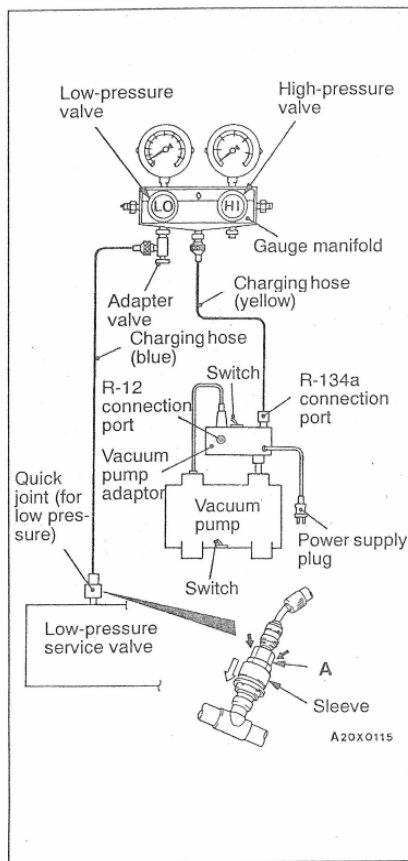
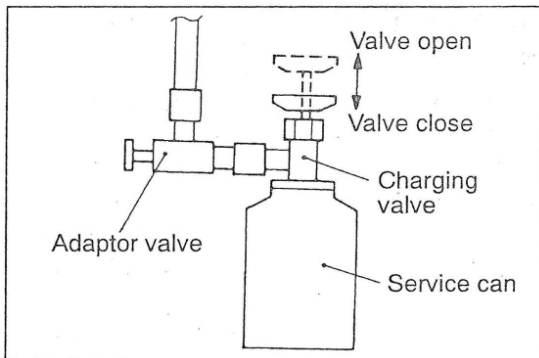
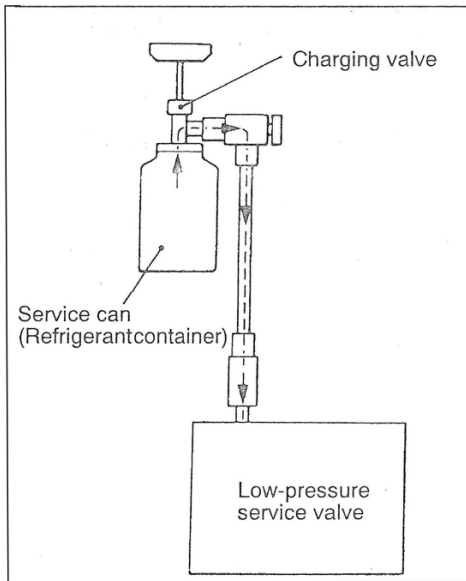

Fig. 21-5
Fig. 21-7
Fig.21-8
5. CHARGING (see Fig.21-5, Fig.21-6, Fig.21-7, Fig.21-8)